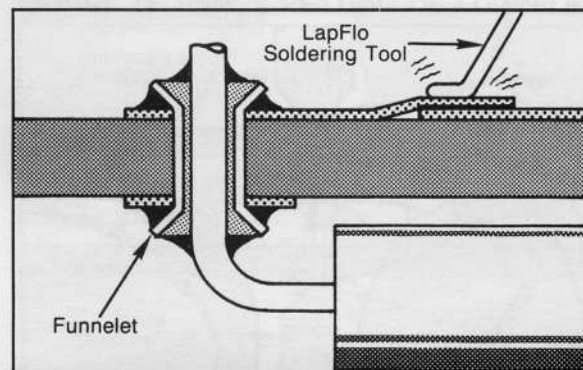

FIGURE 17. REFLOW SOLDER TRACK
STEP 15—Apply PACE Liquid Flux (or equivalent) to the Track overlap area. Reflow solder the Track to the circuit board (see Figure 17). The PACE LapFlo Soldering Tool (see Equipment and Training) is ideally suited for this operation. The LapFlo Soldering tool tip can be used to locate, clamp and heat the Track and maintain force during the cool down, preventing a disturbed joint. This clamping action provides the strongest bond possible. (**NOTE:** If a LapFlo Tool is not available, a soldering iron (20-22 watts max.) with a 1/16" tip may be used instead as follows: (a) after fluxing the Track overlap area, apply the soldering tip to the lap joint while carefully holding the Track in place with a tweezer; (b) remove the heat after solder has flowed, but continue holding the Track until solder cools).